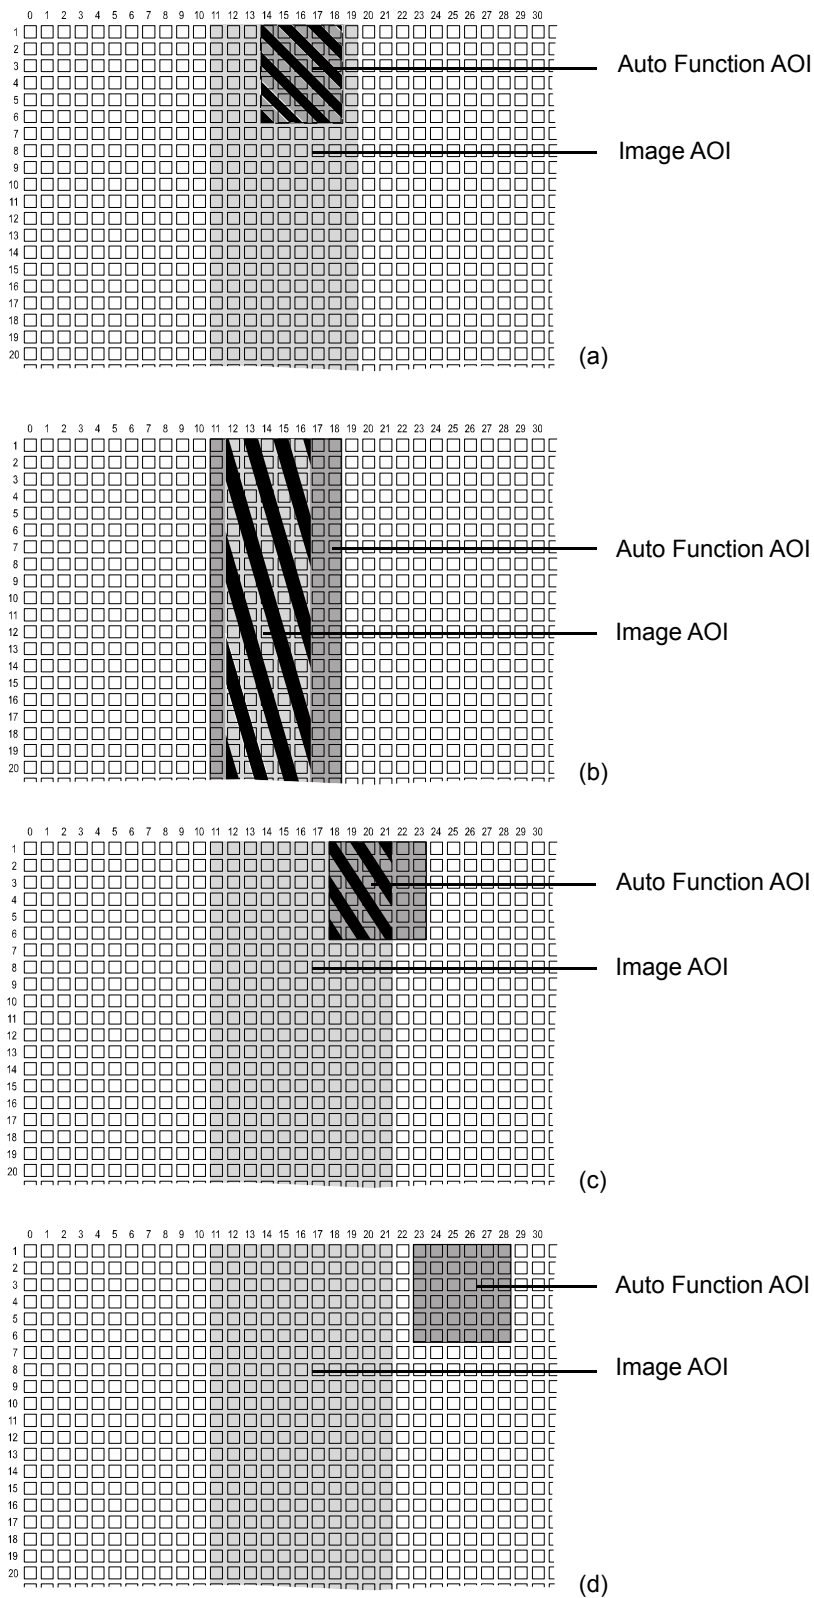

Fig. 56: Various Degrees of Overlap Between the Auto Function AOI and the Image AOI
Different degrees of overlap are illustrated in Fig. 56. The hatched areas in the figure indicate areas of overlap.
- If the auto function AOI is completely included in the image AOI (see (a) in Fig. 56), the pixel data from the auto function AOI will be used to control the image property.
- If the image AOI is completely included in the auto function AOI (see (b) in Fig. 56), only the pixel data from the image AOI will be used to control the image property.
- If the image AOI only partially overlaps the auto function AOI (see (c) in Fig. 56), only the pixel data from the area of partial overlap will be used to control the image property.
- If the auto function AOI does not overlap the image AOI (see (d) in Fig. 56), the Auto Function will **not** or only to a **limited** degree control the image property. For details, see the sections below, describing the individual auto functions.